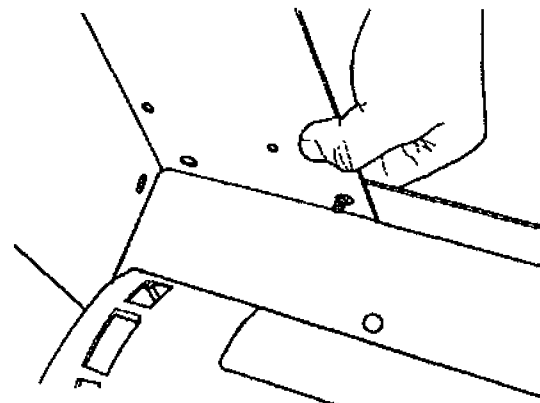

Fig. 13
15. Insert a Pan head machine screw (99) through a hole in the top panel and the leg, as illustrated in Fig. 13.